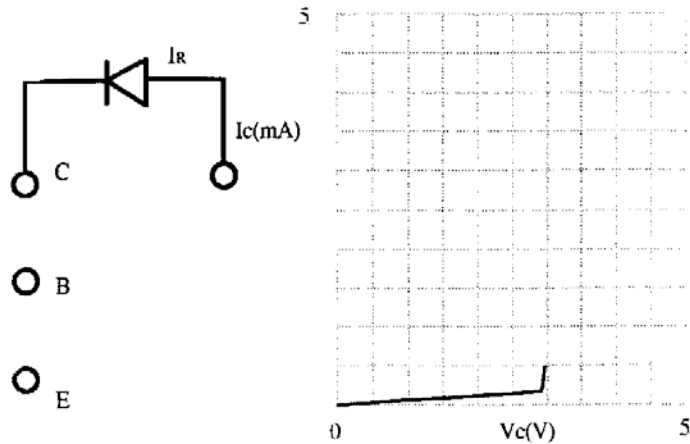

Fig.3-5
3.2.5 Reversal breakdown voltage test of diode IN4148 (see Fig. 3-5)